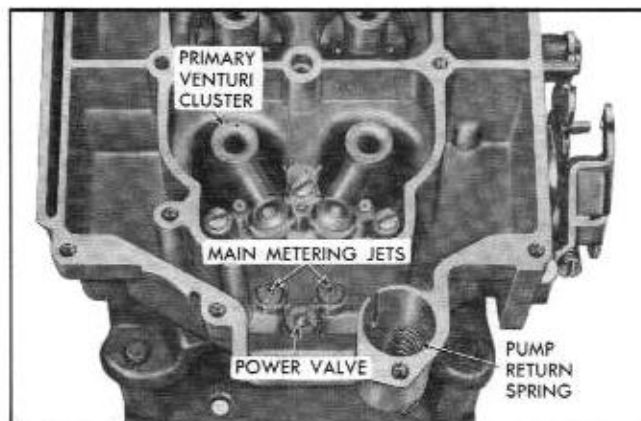

Fig. 6B-86 Carburetor Body Assembly
6. Remove pump return spring from pump well (Fig. 6B-86). Carefully invert carburetor body to remove aluminum pump inlet ball.